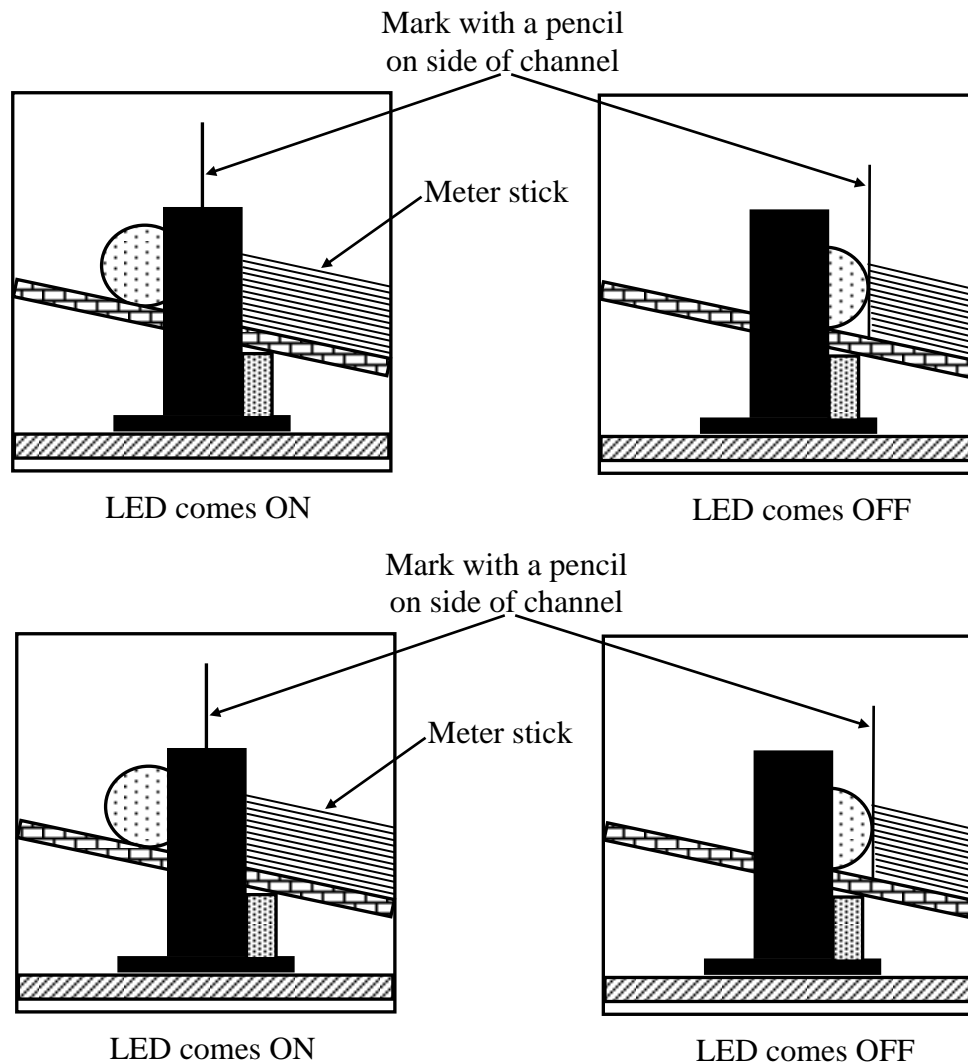

Figure 11.3: Measuring  $\Delta d$ .
2. Move the ball slowly through the photogate, using the meter stick as shown in Fig. 11.3. Determine the point at which the ball first triggers the photogate timer-this is the first